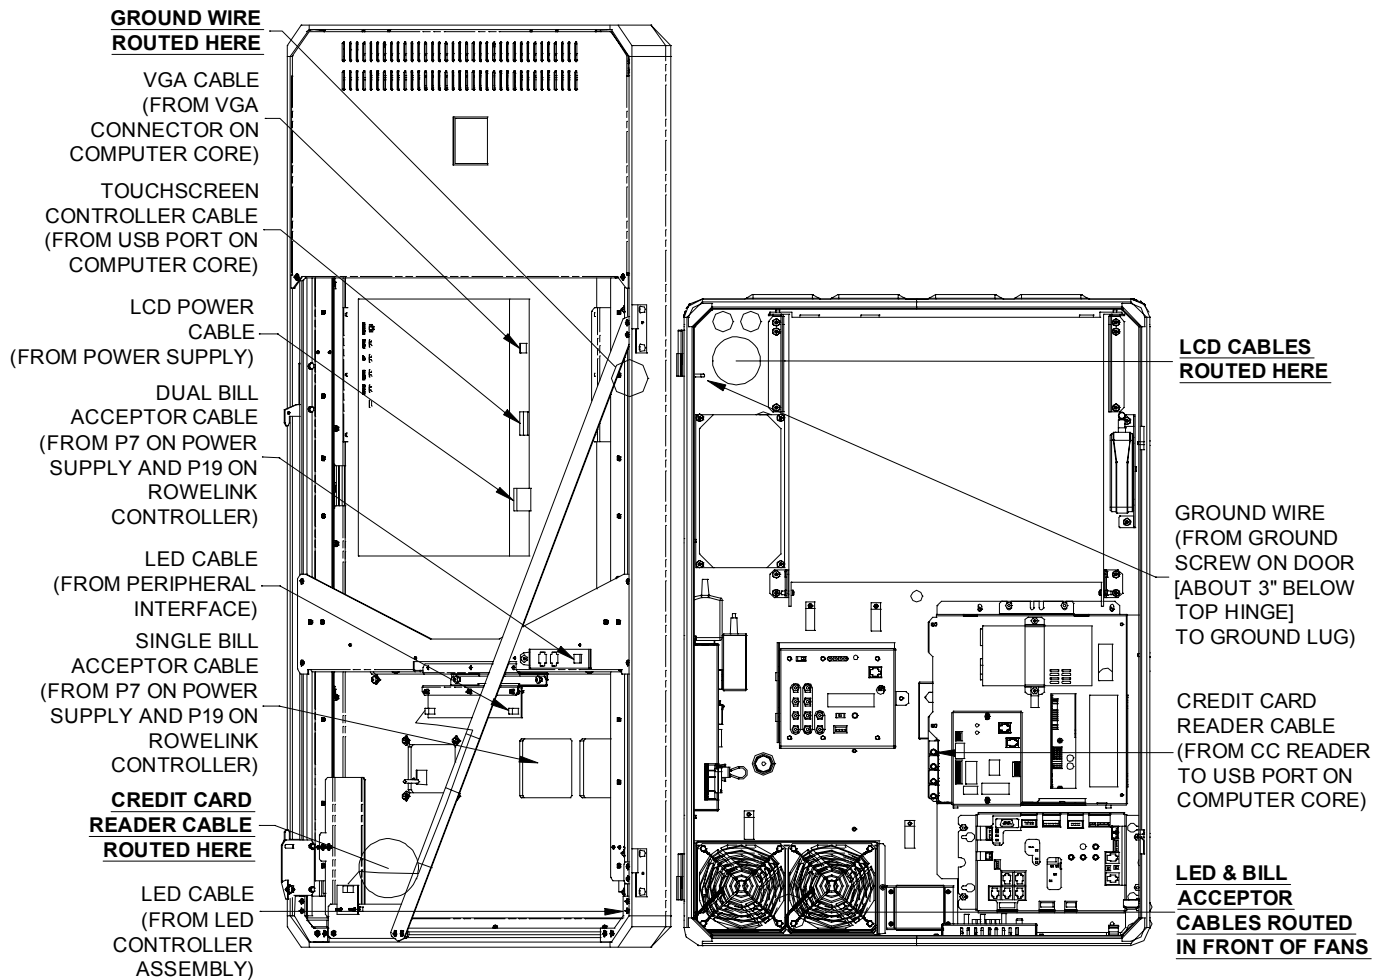

Figure 7-B – Inside View of Jukebox with Front Door Opened
8. Using *Figure 7-B*, locate the free ends of the 3 LCD cables, 2 LED cables and bill acceptor cable inside the cabinet. Connect these cables from the cabinet to the front door as shown in *Figure 7-B*.
9. Using *Figure 7-B*, locate the free ends of the credit card reader and ground wire cables on the door. Connect these cables from the front door to the cabinet as shown in *Figure 7-B*.